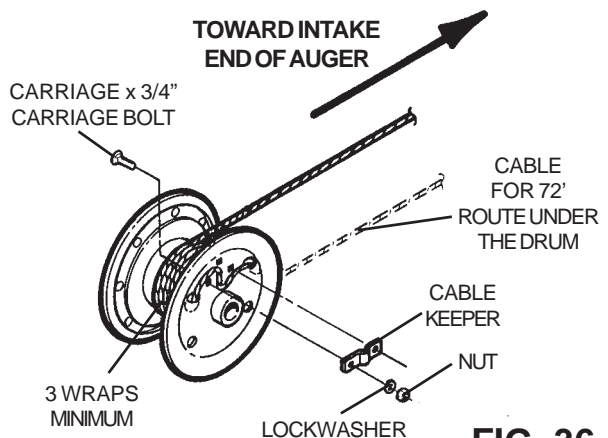

FIG. 36
34. Attach 1/4" lift cable to winch drum, so cable will wrap over winch drum on 32', 42', 52' and 62' models and under winch drum for 72' models when turning handle in a clockwise direction. See Fig. 36. From inside of drum, insert the cable through one round hole in the drum side, until it extends 1" past the two square holes. Next, clamp the cable to the outside of the drum with the cable keeper, using two 3/16" x 3/4" carriage bolts, lock washers and nuts. Be sure that the carriage bolt heads are on the inside of the drum.